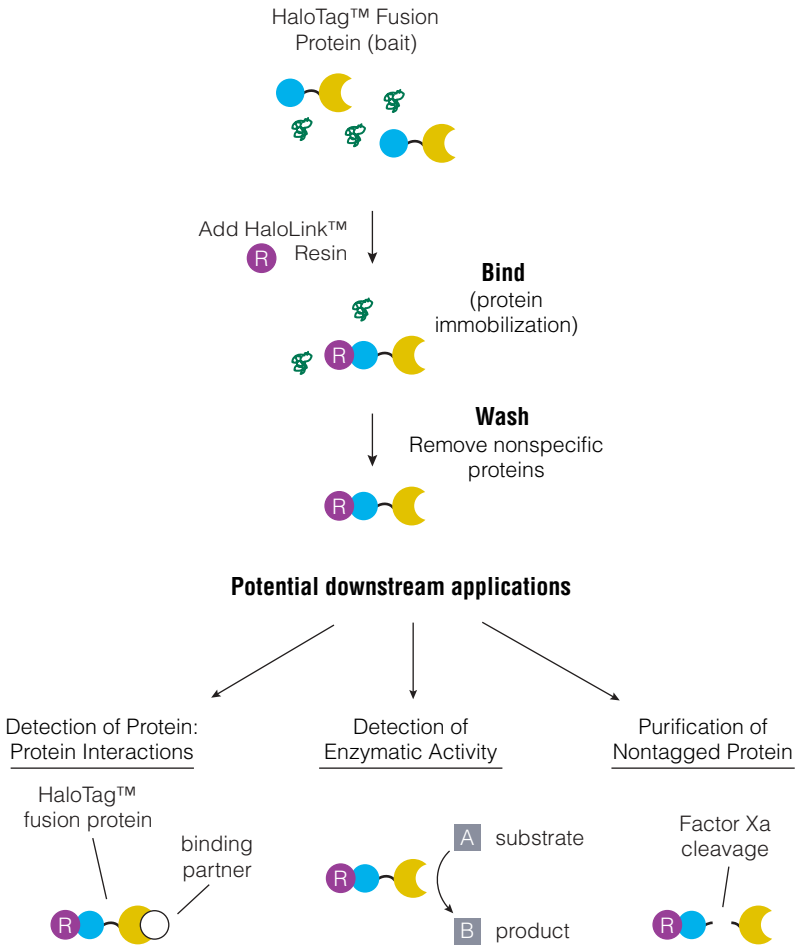

Figure 1. Overview of the HaloLink™ Resin immobilization protocol.
The protocol below is optimized for binding of proteins synthesized using the in vitro expression systems (see Figure 1 for overview). We used the TNT[®] T7 Quick Coupled Transcription/Translation System (Cat.# L1170). Other in vitro expression systems can be used (see Section VII.C. Related Products and references 2 and 3). This protocol is a guideline and should be optimized for specific HaloTag[™] fusion proteins. Volumes of protein samples and resin can be scaled up or down depending on the specific needs.
3. Resuspend the resin carrying covalently attached HaloTag™ fusion protein in the desired volume of a buffer compatible with downstream applications (see Figure 1).